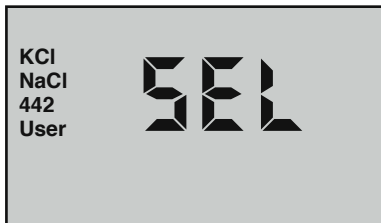

Figure 1
2. Press and hold $\frac{\text{CAL}}{\text{MCLR}}$ key for 3 seconds to make "SEL" appear (see Figure 1). For demonstration purposes, all 4 solution types are shown simultaneously.